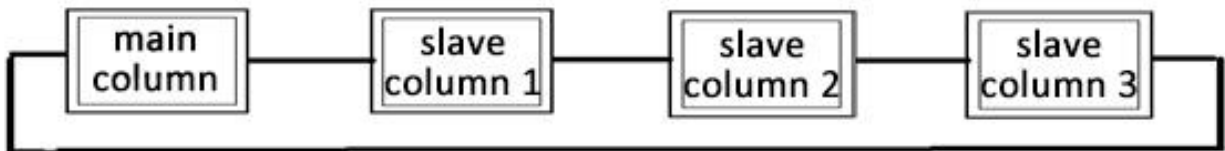
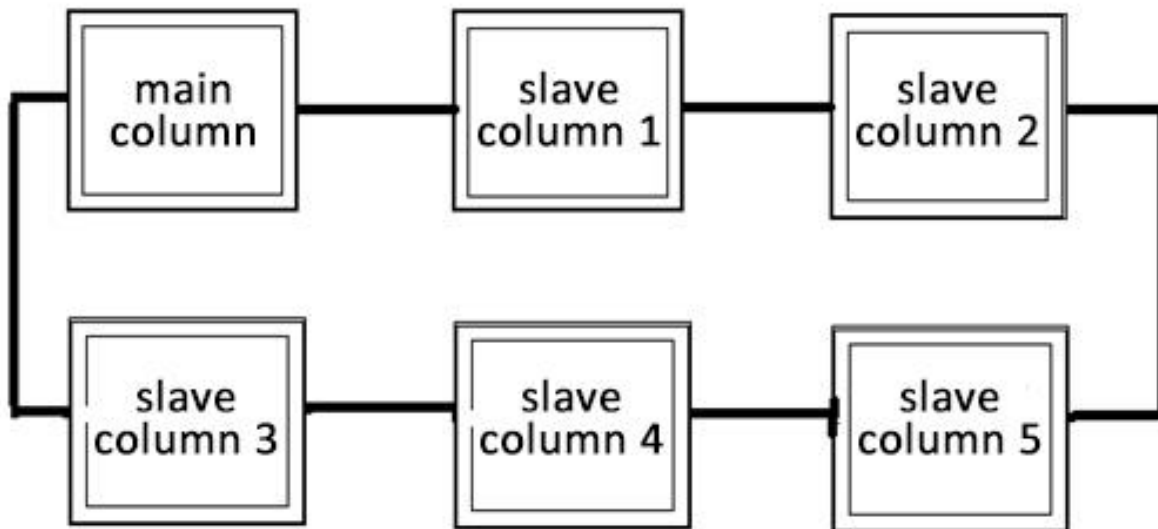

Fig. 1
Fig. 2
Make sure that you have connected all communication cables according to Fig. 1 and Fig. 2 before operation.
Power on: Connect all 4/6 columns with communication cable according to Fig.1 or Fig. 2, turn the Mode Selection knob to PAIR or ALL mode, and power on main column and all slave columns. LCD screen will show work interface after successful connection.
5. Connect all communication cables as show in Fig. 1 or Fig. 2.